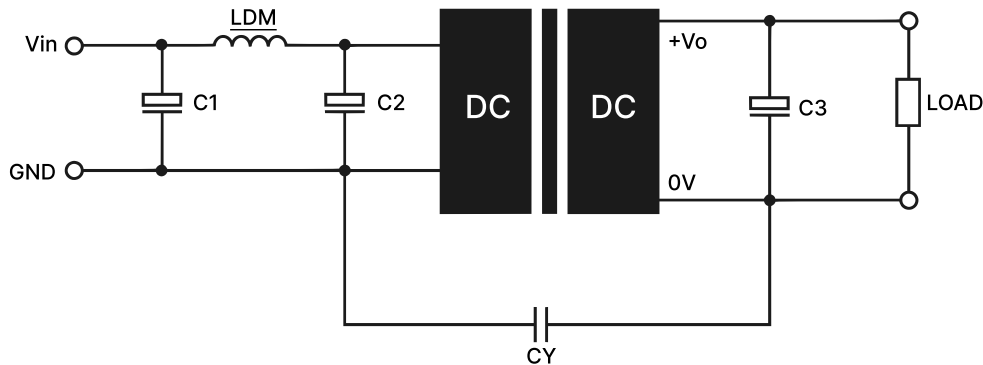

Figure 2: EMC Typical Recommended Circuits
Radiation disturbance	CISPR32/EN55032 CLASS B (The recommended circuit is shown in Figure 2)
2. EMC requirements: For situations with high EMC requirements, a typical EMC recommended circuit is shown in Fig.2.